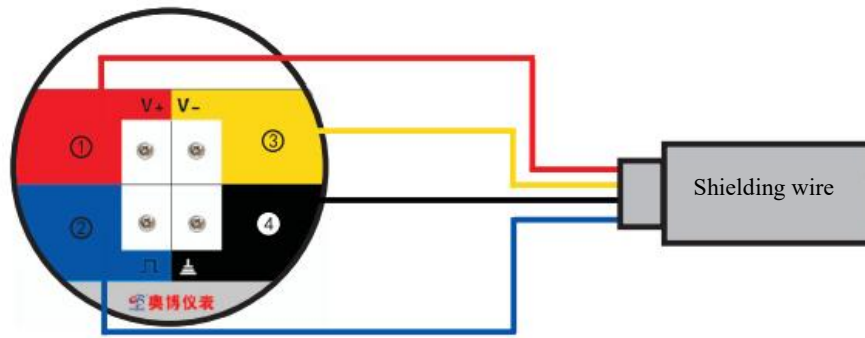

Figure 9
1.1 Located on the other side of the detection amplifier, the spin cover is visible, as shown in Figure 9: Two terminals: